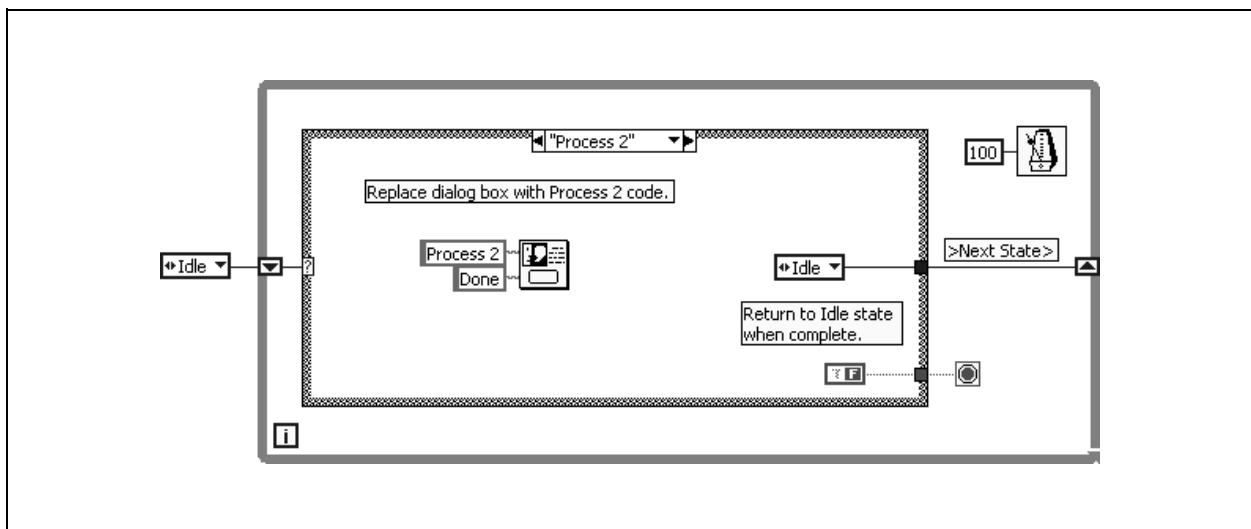

Figure 10-20. Process 2 State
6. Complete the Process 2 state shown in Figure 10-20. Use the following tips to assist you: